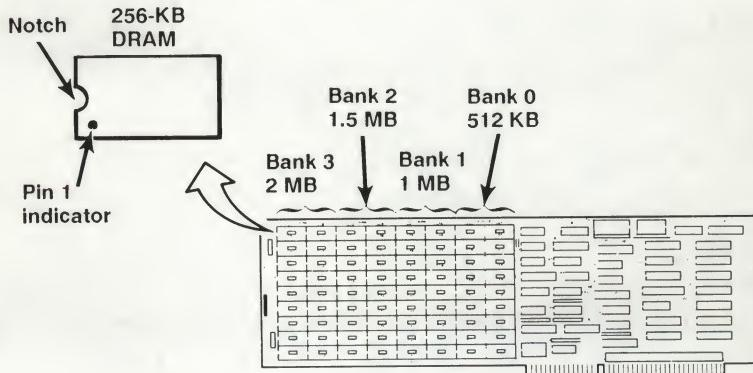

Figure C-2. Installing Rampage 286 Memory Chips.
- Insert each chip so the notch or pin 1 indicator points left (See Figure C-2.)